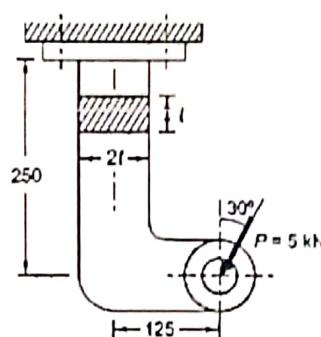

Fig.1.
3. a) A bracket, made of steel FeE 200 ($S_{yt}=200 \text{ MPa}$) and is subjected to a force of 5 kN acting at an angle of 30° to the vertical is shown in Fig.1. The factor of safety is 4. Determine the dimensions of the cross-section of the bracket. 6M